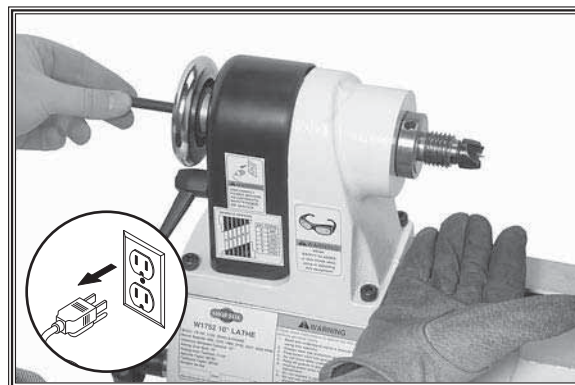

Figure 23. Example of removing spur center using knock-out bar.
3. Insert knock-out bar through outboard end of spindle and firmly tap back of center, catching it as it falls out (see Figure 23).